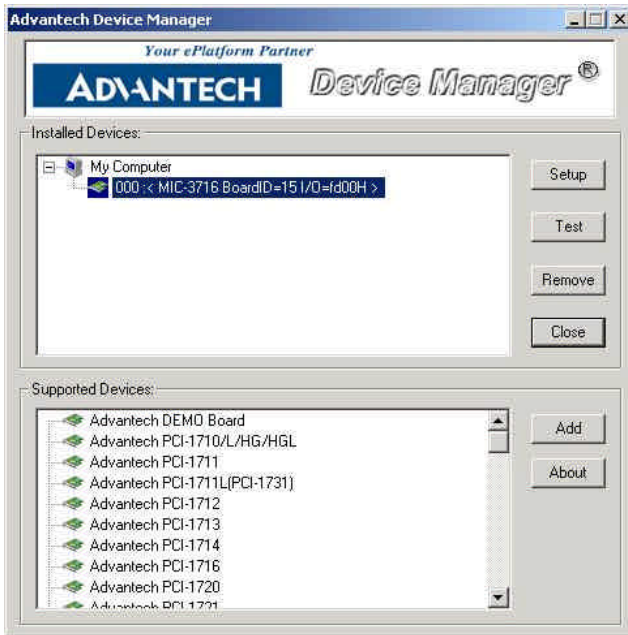

Fig. 2-6: *The Device Name appears in the list of devices dialog box*
Step 5: After you have finished configuring the device, click **OK** and the device name will appear in the *Installed Devices* box as shown in *Fig. 2-6*.